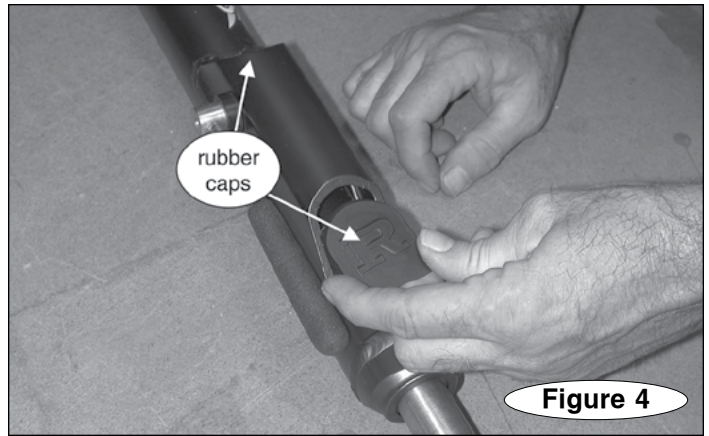

Figure 4
4. Remove the rubber caps (Figure 4).